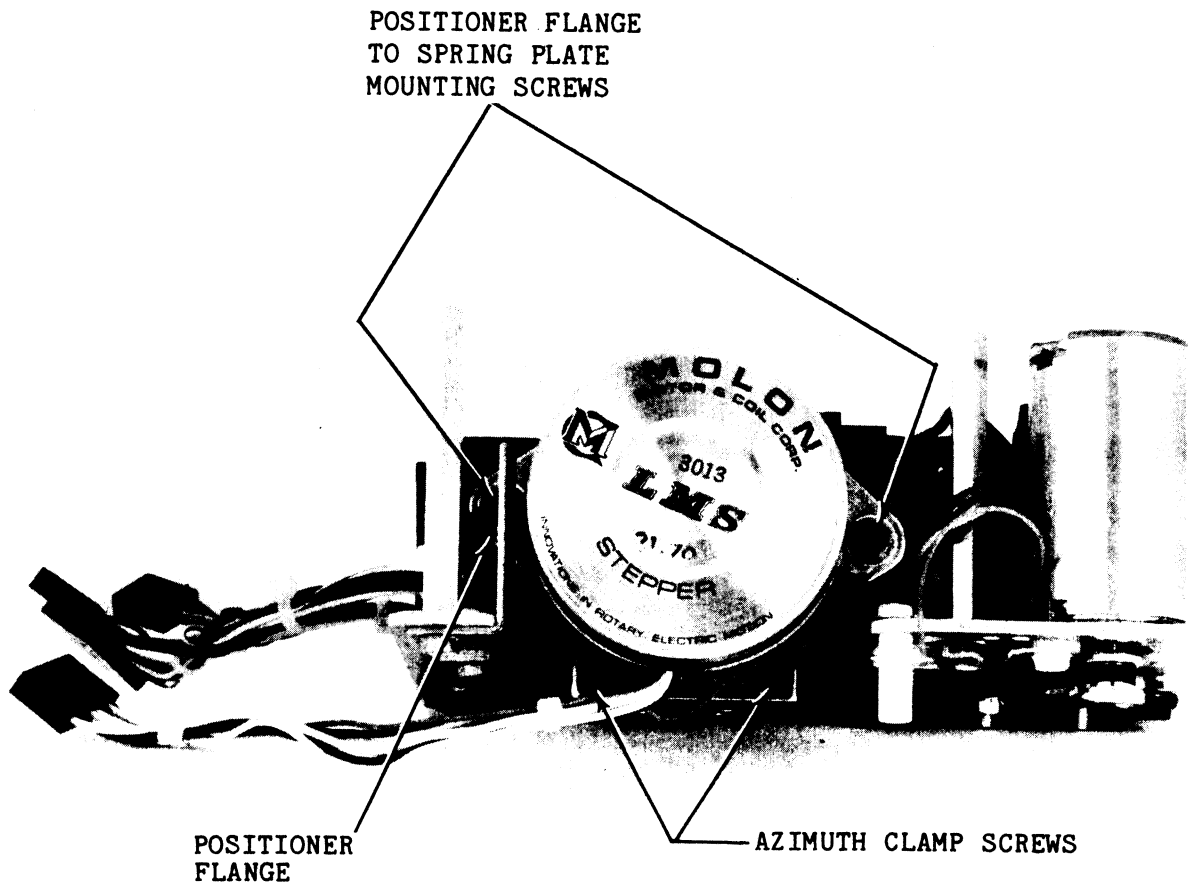

Figure 4-7. Positioner Adjustments
- j. Loosen the two positioner flange mounting screws that clamp the positioner flange to the spring plate (see Figure 4-7).